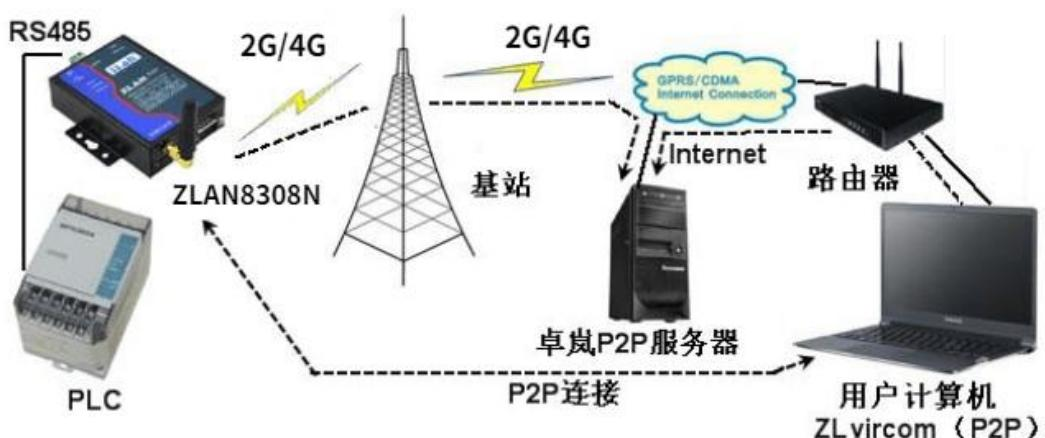

Figure 3 P2P 2G/4GDTU mode
ZLAN8308N This model integrates ZLAN's P2P technology, which can solve the inconvenience of ordinary DTU requiring "port mapping" and "dynamic domain name". Figure 3 P2P 3G/4G DTU mode is shown in Figure 3. Compared with Figure 2, (1) a ZLAN P2P server is added here, and (2) the user's computer replaces the monitoring server. Users do not have to use the server for monitoring, but can use their own laptops to monitor anytime and anywhere. At the beginning of communication, the P2P software on the user's computer - ZLVircom first communicates with the ZLAN P2P server; at the same time, 8303 can also communicate with the ZLAN P2P server. After the two parties have negotiated, direct communication between 8303 and ZLVircom can be established (without forwarding through the P2P server). The software on the user's computer can communicate through the virtual serial port or TCP simulation port provided by ZLVircom. When using it, the user only needs to enter the serial number of the 8303 to be monitored in the ZLVircom software to establish a P2P connection. The P2P method frees users from the trouble of "port mapping" and "dynamic domain name", and does not require them to rent a server with a public IP, thus truly achieving